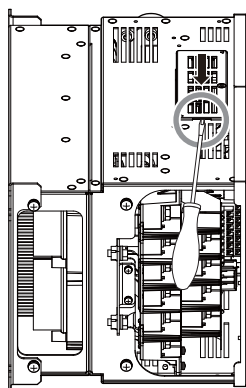

Figure 4.29 Removing the Connector Cover
3. Insert a straight-edge screwdriver into the opening as shown in Figure 4.29, then remove the connector cover by sliding it along as shown in Figure 4.29.